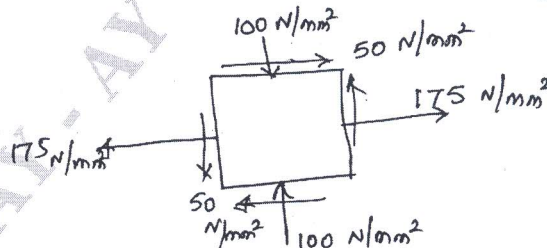

Fig. Q3 (b)
b. The state of stress at a point in a strained material is as shown in Fig Q3(b).